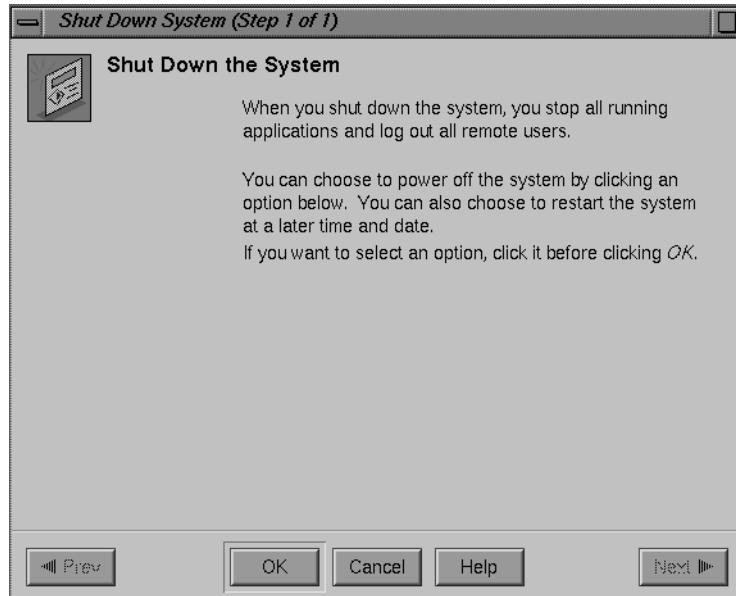
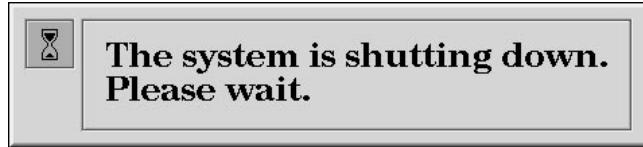

Figure 1-29 Shutting Down the System Caution Notifier
Figure 1-30 System Shutdown Notifier
After a few seconds you see the notifier shown in Figure 1-29.
2. Click *OK* at the notifier shown in Figure 1-29. The screen clears and you see the notifier shown in Figure 1-30.